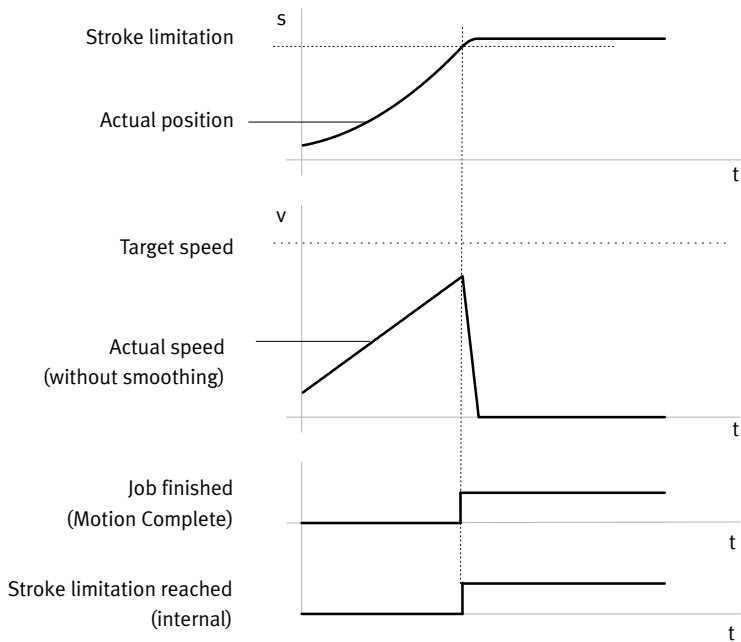

Fig. 2.8 Speed mode with stroke limitation (stroke limitation reached first)
– Stroke limitation is reached first (example → Fig. 2.8)	The “Stroke limitation” signal is set. The drive is braked down to a stop using the parameterised Quick-Stop deceleration function. Although the target speed has not been reached yet, the signal “Motion Complete” is set. Open-loop operation: The drive remains at the target position and is maintained in position with the predefined holding current. Closed-loop operation: The drive stops in a position-controlled way.